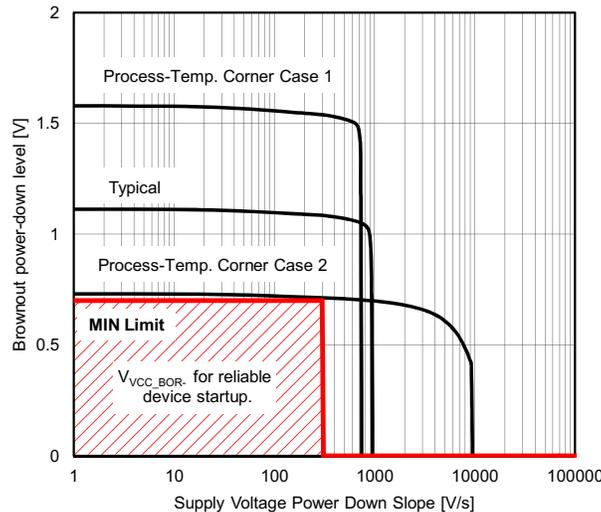

Figure 5-6. Brownout Power-Down Level vs Supply Voltage Down Slope
- (1) In case of a supply voltage brownout scenario, the device supply voltages need to ramp down to the specified brownout power-down level V_{VCC_BOR-} before the voltage is ramped up again to ensure a reliable device startup and performance according to the data sheet including the correct operation of the on-chip SVS module.
- (2) Fast supply voltage changes can trigger a BOR reset even within the recommended supply voltage range. To avoid unwanted BOR resets, the supply voltage must change by less than 0.05 V per microsecond (±0.05 V/μs). Following the data sheet recommendation for capacitor C_{DVCC} should limit the slopes accordingly.
- (3) The brownout levels are measured with a slowly changing supply. With faster slopes the MIN level required to reset the device properly can decrease to 0 V. Use the graph in Figure 5-6 to estimate the V_{VCC_BOR-} level based on the down slope of the supply voltage. After removing VCC the down slope can be estimated based on the current consumption and the capacitance on DVCC: dV/dt = I/C with dV/dt: slope, I: current, C: capacitance.
- (4) The brownout levels are measured with a slowly changing supply.